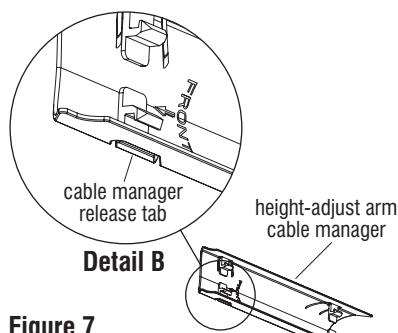

Figure 7
3. Snap cable manager back to the underside of the extension arm assembly taking note the text "FRONT" inside the cable manager (Figure 7 & Detail B).